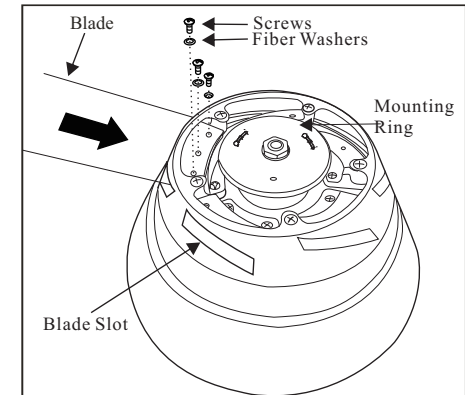

Figure 12
1. Attach the fan blades to the motor assembly using the screws and fiber washer provided, tighten screws securely. (Figure 12)
2. Align motor holes to blade and secure with screws provided, tighten screws securely. Repeat procedure with remaining blades. (Figure 12)